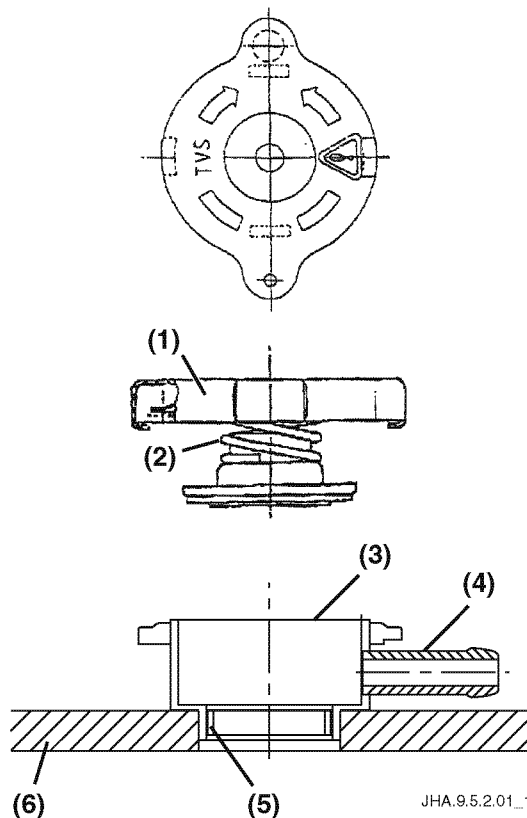

Figure 7-9
The pressure valve and the vacuum valve are both sealed when the pressure in the coolant recovery tank is within the specified value of 88 kPa (12.7 psi). When the pressure within the tank exceeds the specified value, it pushes against the pressure valve spring (**Figure 7-9, (2)**) and opens, allowing steam to discharge through the overflow pipe (**Figure 7-9, (4)**). When the coolant mixture is cold and the internal pressure drops below the normal value, atmospheric pressure opens the vacuum valve and air is drawn in through the overflow pipe.
1. Remove the copper tube (**Figure 7-9, (5)**) from the inside of the filler neck (**Figure 7-9, (3)**) by tapping the circumference with a special tool 1 (**Figure 7-10, (1)**) and mallet.
2. When the filler neck comes free of the heat exchanger (**Figure 7-9, (6)**), avoid damaging the exchanger as you remove it.